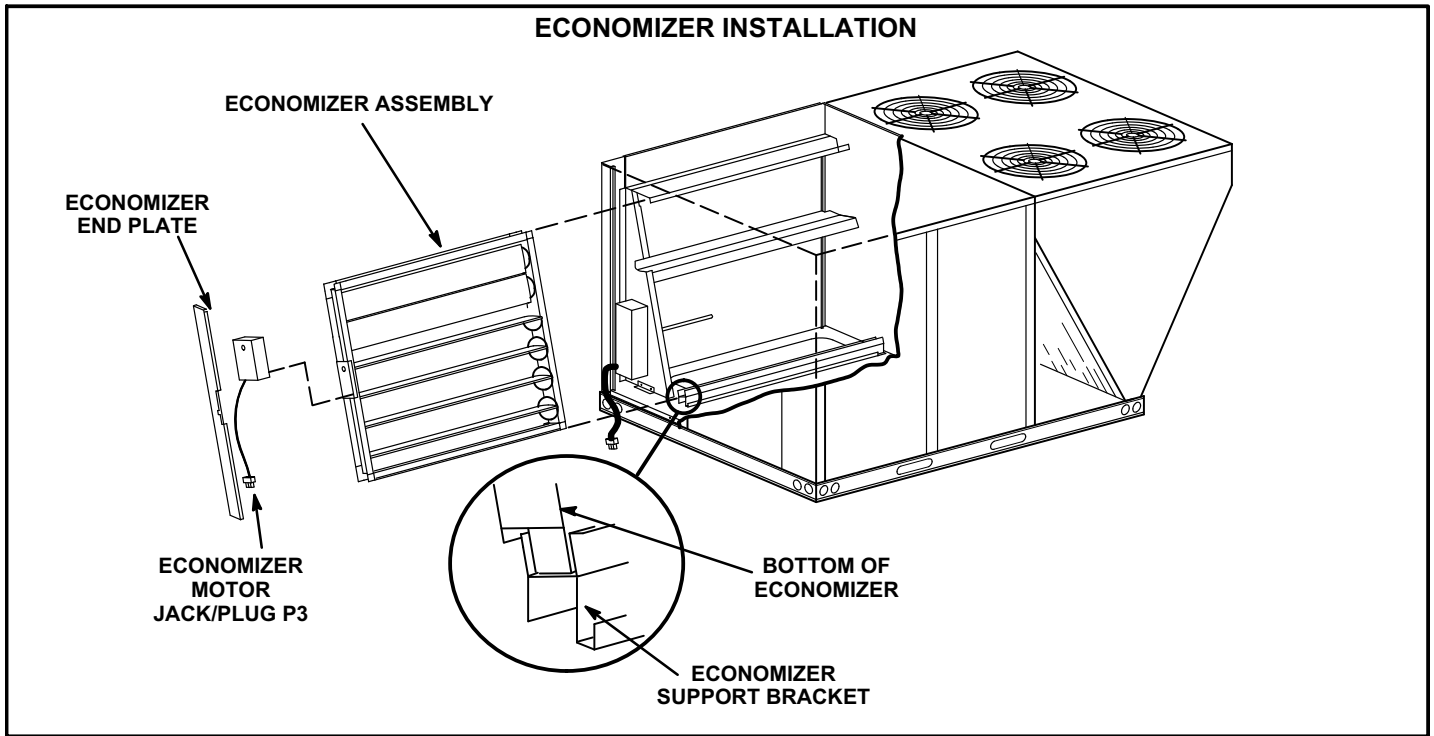

FIGURE 1
- 3- Align bottom of economizer with economizer support bracket and slide economizer into unit. See figure 1.